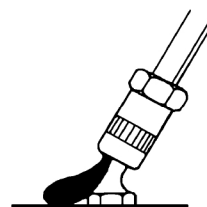

Fig. 5
- 4) Remove the hydro chuck of the grease gun. Since pressure is applied to the hydro chuck, the head of the nipple may be broken if it is suddenly pulled. Incline the hydro chuck to bleed the internal pressure and loosen the claw bite, and the chuck can be easily removed. (Fig. 5)